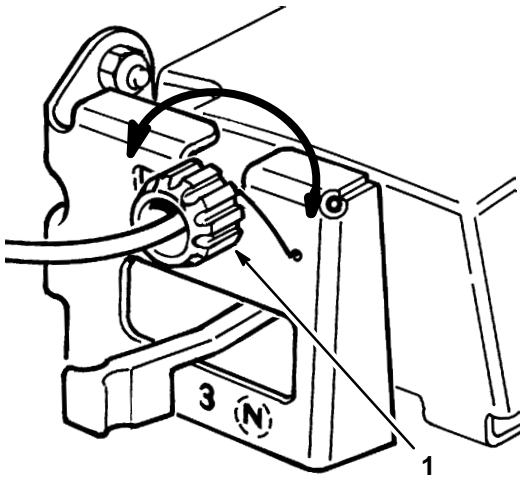

Figure 22
2. ADJUSTMENT (Fig. 22)—Rotate control knob clockwise 1/2 turn if mower does not self-propel. If mower creeps forward, rotate knob 1/2 turn counterclockwise to loosen belt.